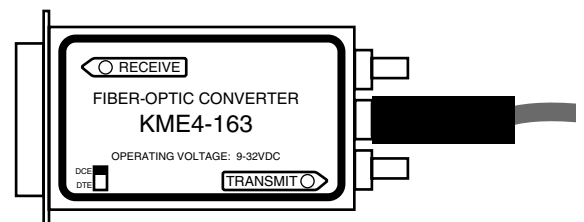

Figure 10.
11. If Fiber-Optic-to-RS-232 converter part number KME4-163 is used, set the DCE/DTE switch. See Figure 10.